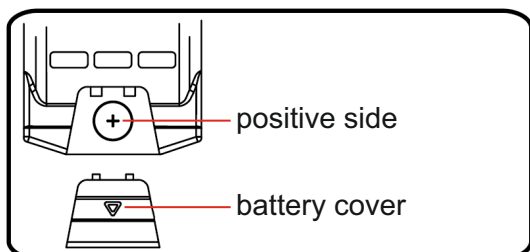

fig. 1
- » Insert the CR2032 battery with the positive side facing outward (see fig. 1).